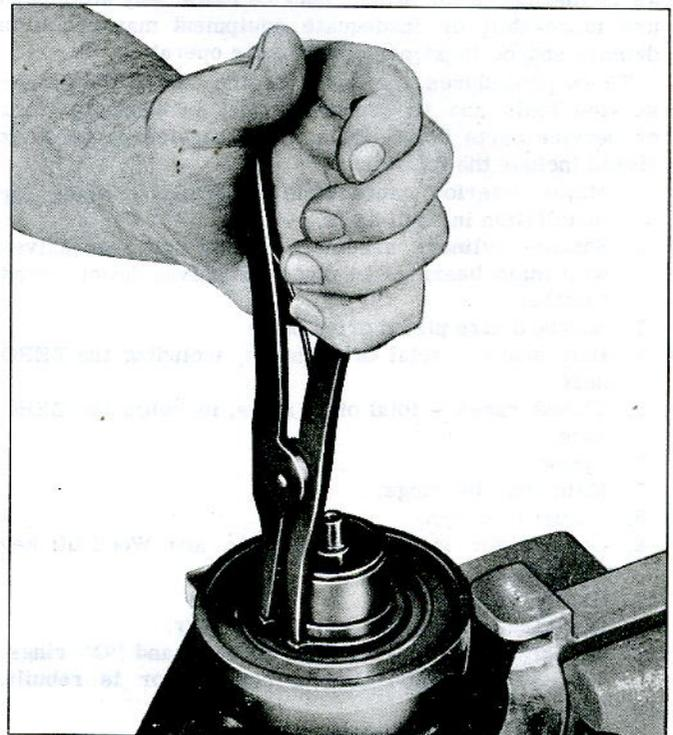

Fig. 37—Removing Coil Housing Retainer Ring
3. Using Snap Ring Pliers J-6435, remove the coil housing retainer ring (fig. 37).